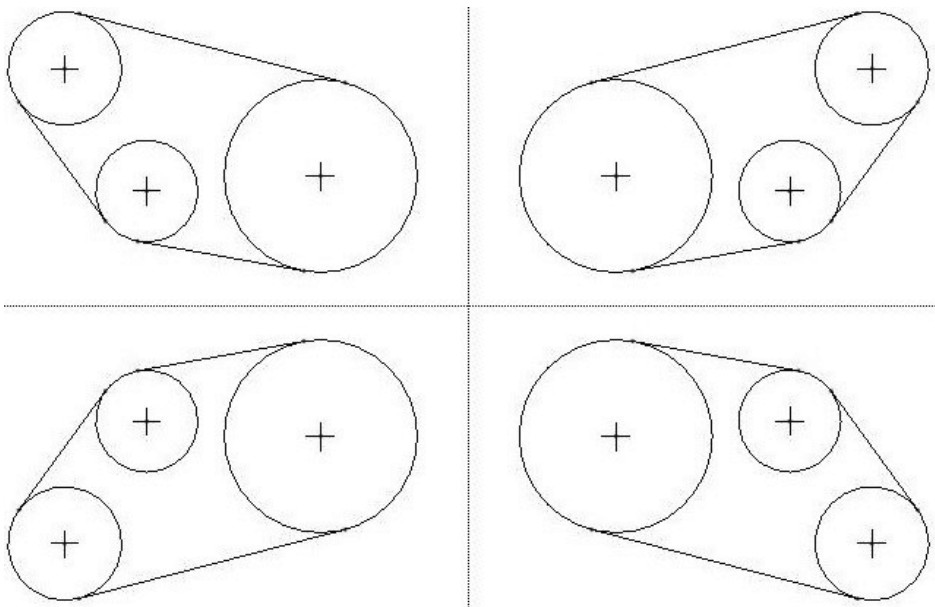

Figure 3-29 Mirror Images
Step 16: Use  to create a mirror image of the entire figure from step 13 or 14 above the centerline. Then mirror both figures about the vertical centerline as seen in Figure 3-29.